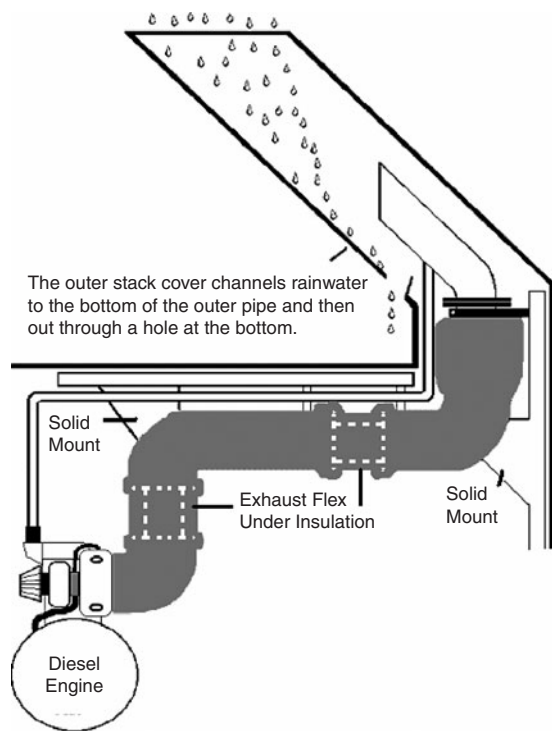

Fig. 8-5. Vertical exhaust system.
3. Allow heat from the engine room to escape by rising alongside the exhaust pipe and muffler (silencer). The accompanying drawing (Fig. 8-5) shows several features of a complete exhaust system going up the stack.
The solid brackets used to mount a dry exhaust pipe are always used in conjunction with flex joints and flexible brackets as shown in Fig. 8-5. Lengthening of the pipe between